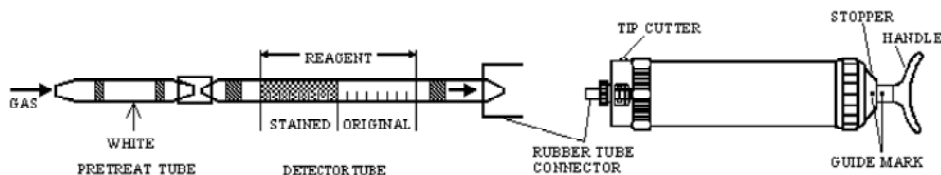

Fig.1
- ① Break both ends of detector tube and pretreat tube, and connect each end of the detector tube and pretreat tube with rubber tube connector as shown in Fig.1.
- ② Insert the detector tube into aspirating pump securely as shown in Fig.1 (Arrow mark shall point to the pump.)
- ③ Align the guide marks on the shaft and stopper of the aspirating pump.
- ④ Pull the pump handle at full stroke until it locks and wait for 1.5 minutes or until the completion of sampling is confirmed with the flow indicator of the pump (See descriptions about the flow indicator in the instructions of the pump).
- ⑤ Push the handle without removing the detector tube from the inlet, and air in the pump will be discharged perfectly. Then repeat the step ④ twice.
- ⑥ On completion of sampling, read the scale at the maximum point of the stained layer.